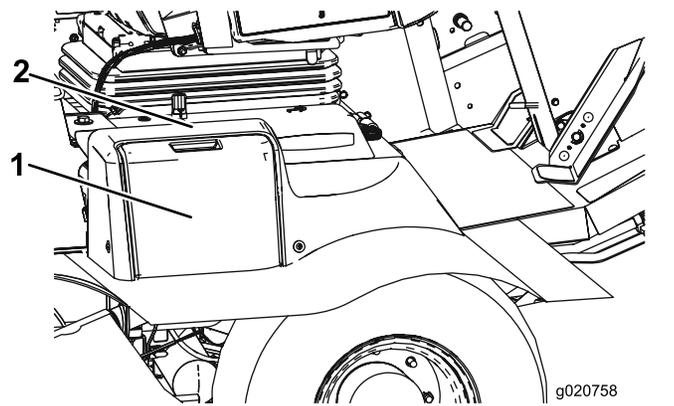

Figure 85
1. Open the battery cover on the side of the shroud (Figure 85).
Note: Press down on the flat surface above the battery cover to ease the removal of the cover (Figure 85).